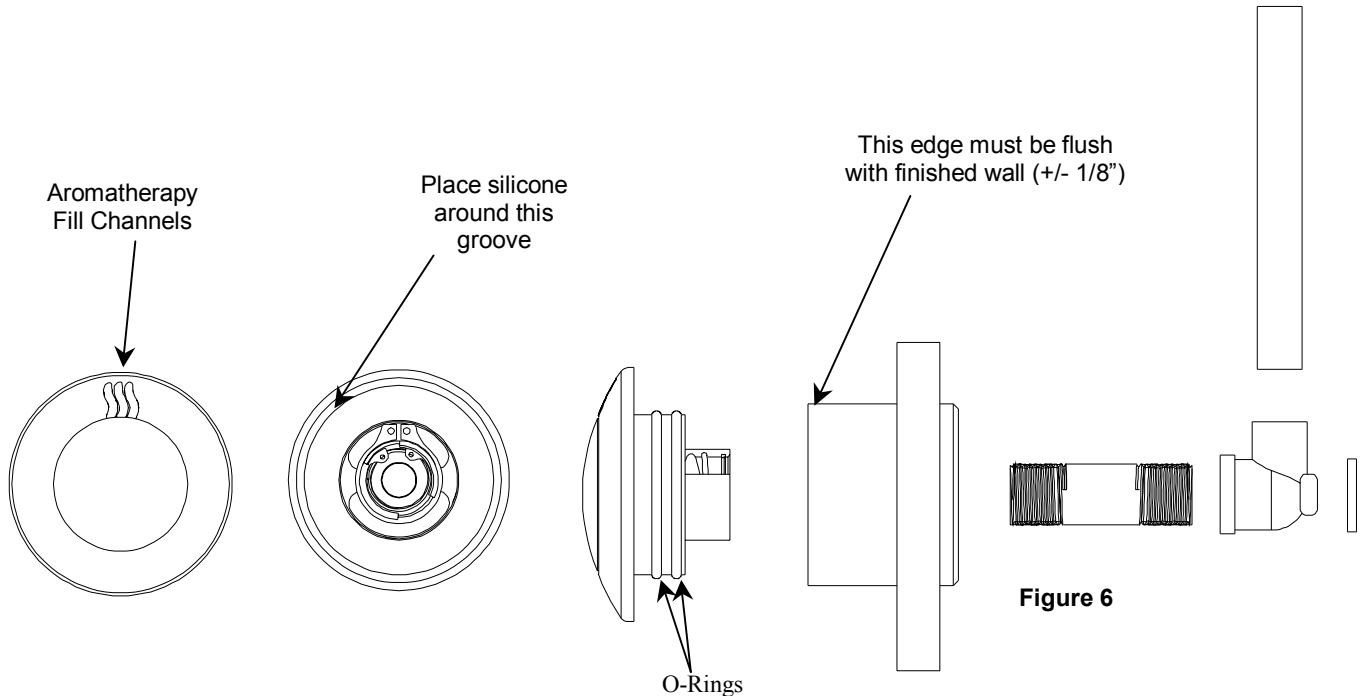

Figure 6
3. Final Installation (steam head): When installing the steam head in to the housing be sure that the aromatherapy fill channels are facing upwards see figure 6. To ensure that no moisture gets behind the steam head and into the wall, place a generous bead of waterproof silicone around the steam head, use the machined groove as a guide. Be sure that within the housing there isn't any debris, and the two O-rings are in place on the steam head. Slide the steam head into the housing until the steam head is tight against the finished wall. You may need to wipe away any excess silicone. Use figure 6 as a reference to these steps.
1. Drill a 7/8" diameter hole in the shower wall or wall above the bathtub for the steam outlet line. Refer to figure 6 as a guide for the proper location of the hole.